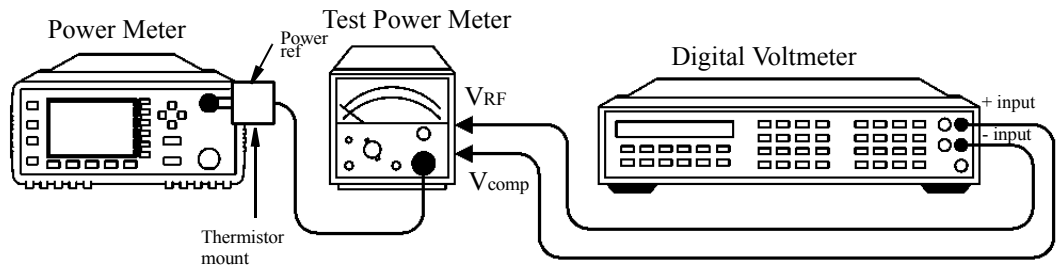

Figure 2-7: Output Standing Wave Ratio Test Setup
9. Connect the equipment as shown in Figure 2-7 ensuring that the DVM input leads are isolated from chassis ground.
- Connect the equipment as shown in **Figure 2-7** ensuring that the DVM input leads are isolated from chassis ground.